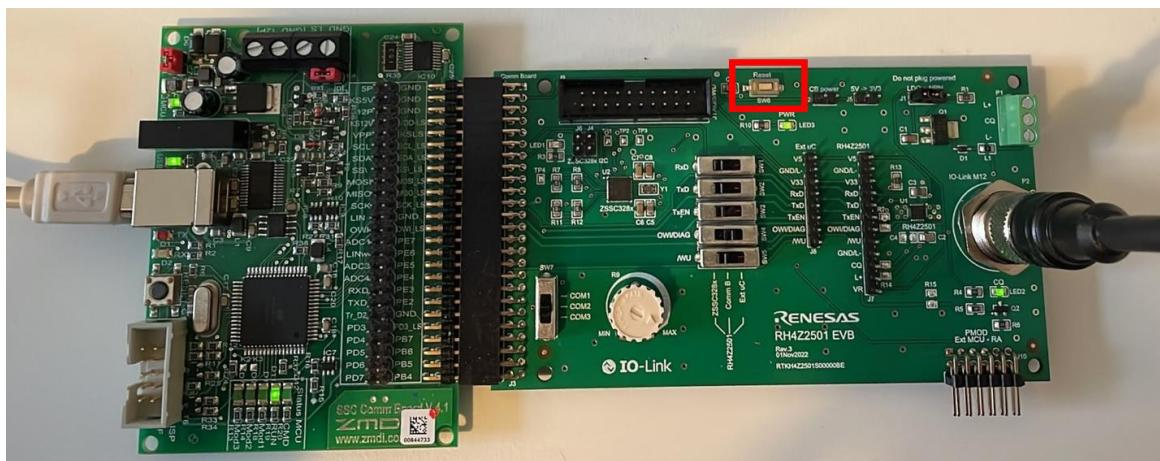

Figure 10. Reset by SW6
- Press Switch 6 to reset the ZSSC328x firmware, see Figure 10.